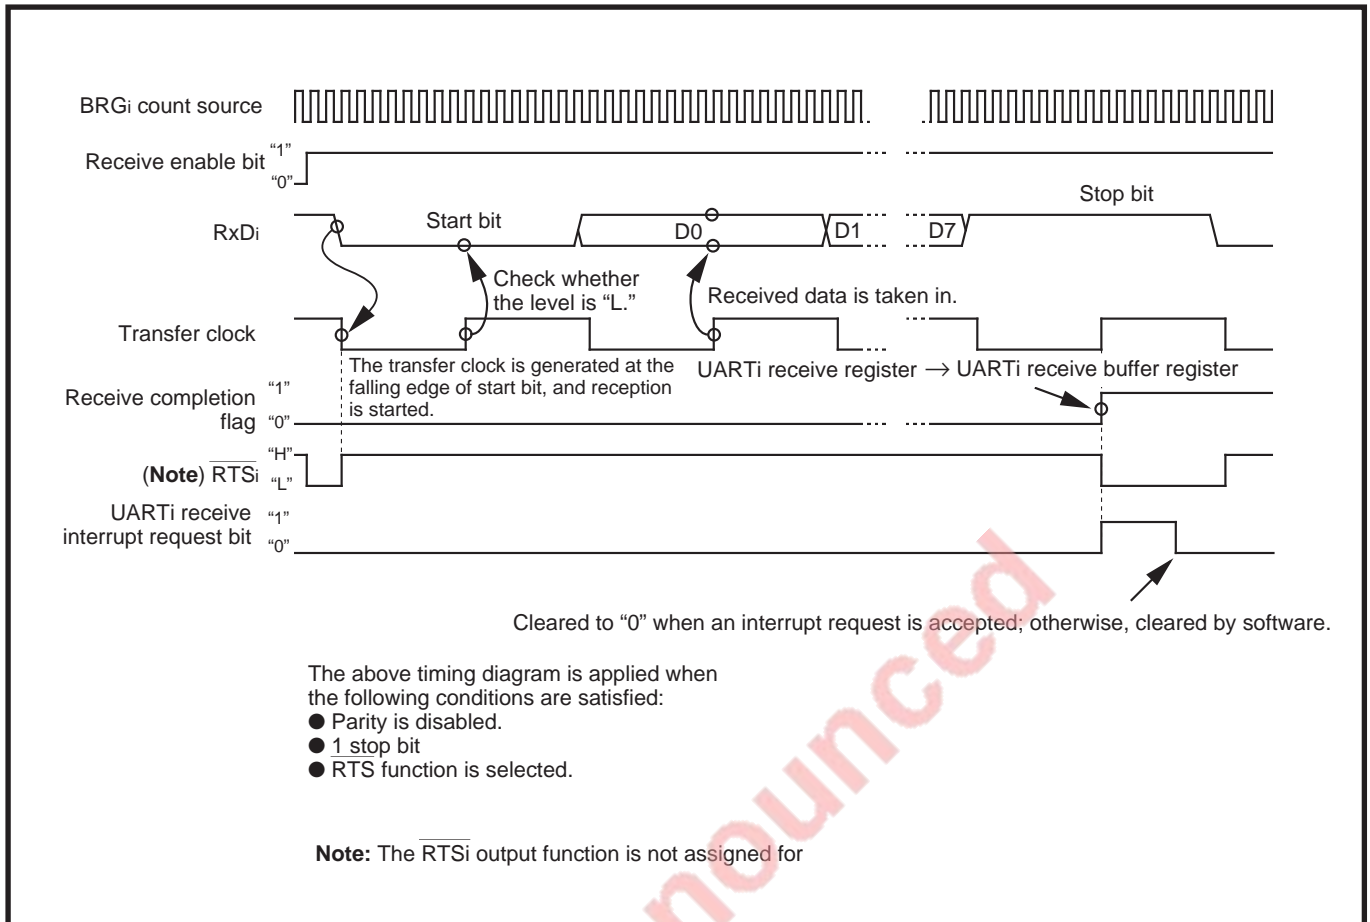

Fig. 8.4.12 Example of receive timing when data is transferred in 8 bits (When parity is disabled and one stop bit)
- ① The signal which is input from the RxDi pin is taken in the most significant bit of the UARTi receive register synchronously with the transfer clock’s rising edge.
- ② The contents of UARTi receive register is shifted by 1 bit to the right.
- ③ Operations ① and ② are repeated at each transfer clock’s rising edge.
- ④ When a set of data is prepared, in other words, when shifted several times depending on the specified data format, the UARTi receive register’s contents is transferred to the UARTi receive buffer register.
- ⑤ Simultaneously with ④, the receive completion flag is set to “1.” Furthermore, a UARTi receive interrupt request occurs and the interrupt request bit is set to “1.”
The receive completion flag is cleared to “0” when the low-order of the UARTi receive buffer register is read out. The  $\overline{\text{RTS}}$ i pin’s output level becomes “L” simultaneously with ⑤ (when  $\overline{\text{RTS}}$  function is selected). Figure 8.4.12 shows an example of receive timing when transfer data has a length of 8 bits.